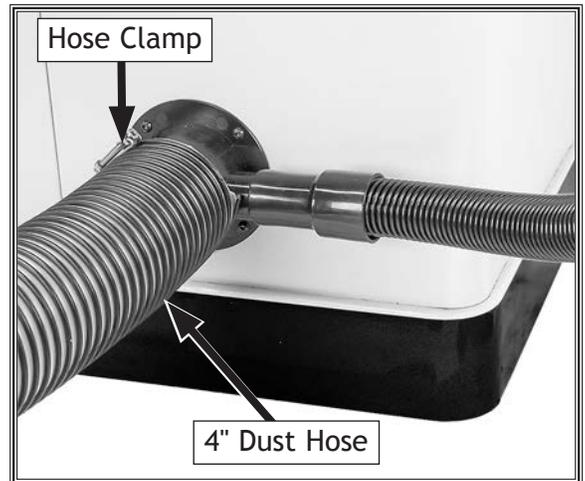

Figure 38. Dust hoses attached to port.
4. Fit 4" dust hose over dust port, as shown in Figure 38, and tightly secure it in place with a hose clamp.